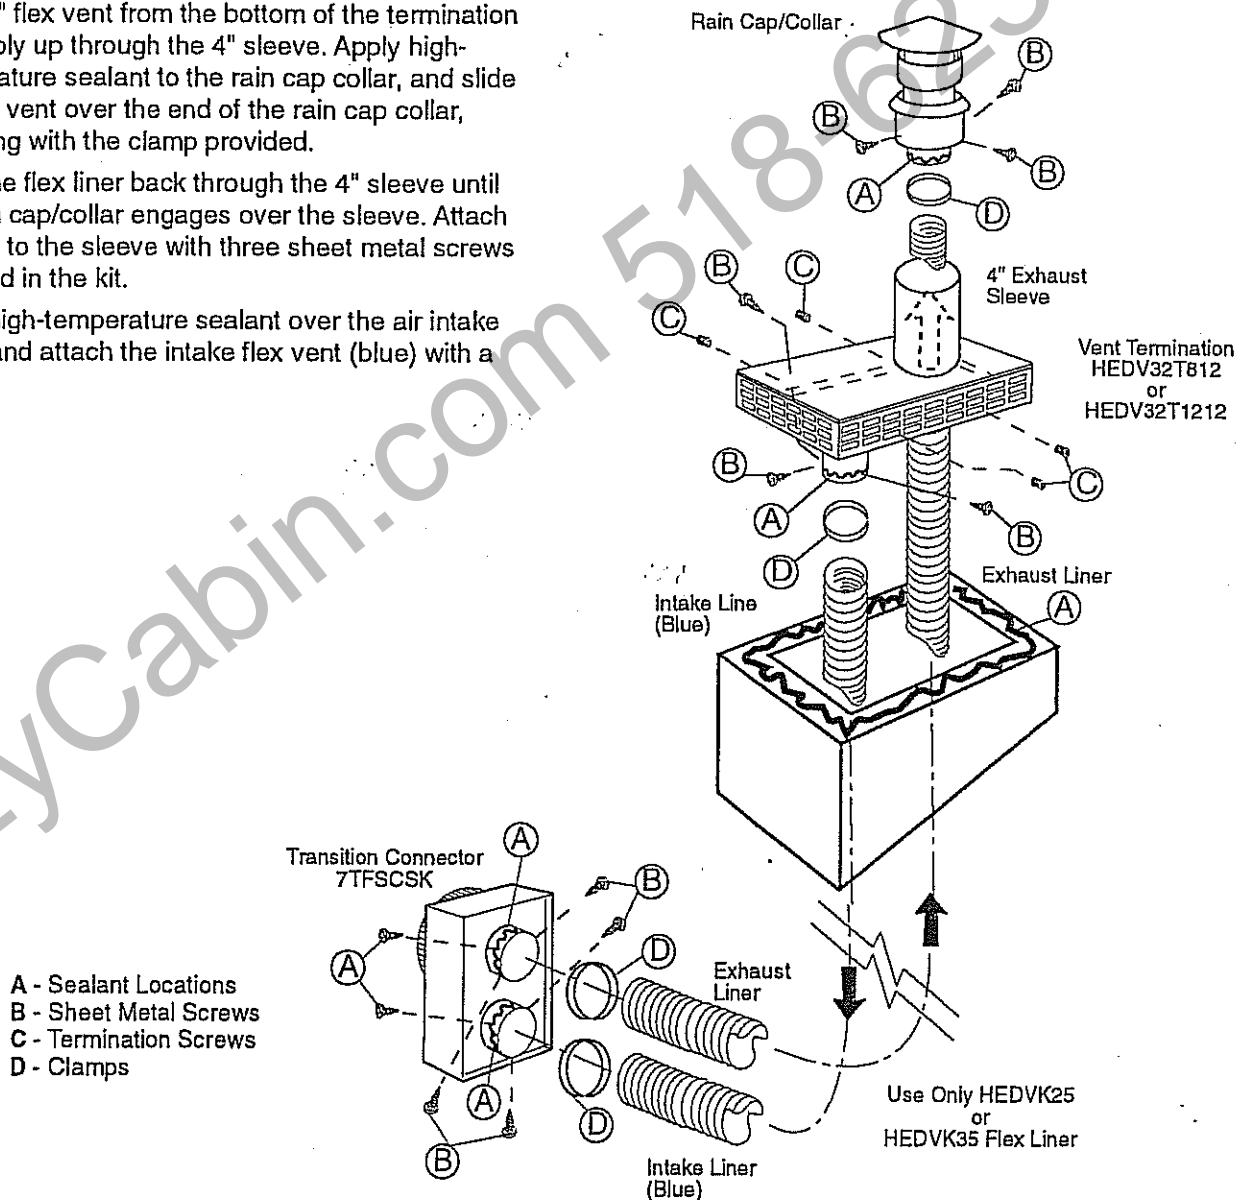

Fig. 38 Fireplace vent system installation.
6. Apply high-temperature sealant to the top of the chimney. Feed the two liners down through the chimney flue and damper opening. Fasten the termination assembly to the chimney with the four set screws (C) provided.
8. Attach the flex liners to the Transition Connector, using high-temperature sealant and clamps as shown in Figure 38. Prop the connector in rough position until the heater is in place in front of it.